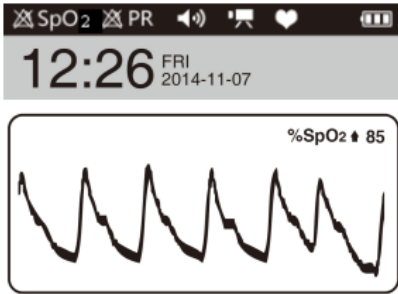
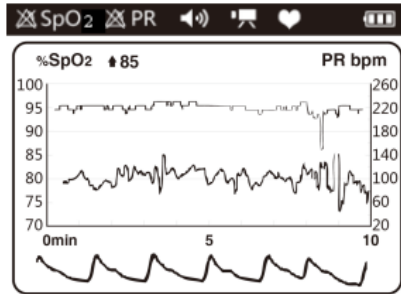

Figure 8. Interface 1
Figure 9. Interface 2
- B. **Mode:** move the choice bar to the “Mode” item, then press left/right button to switch display mode (two kinds of display mode) as figure 8 and figure 9.